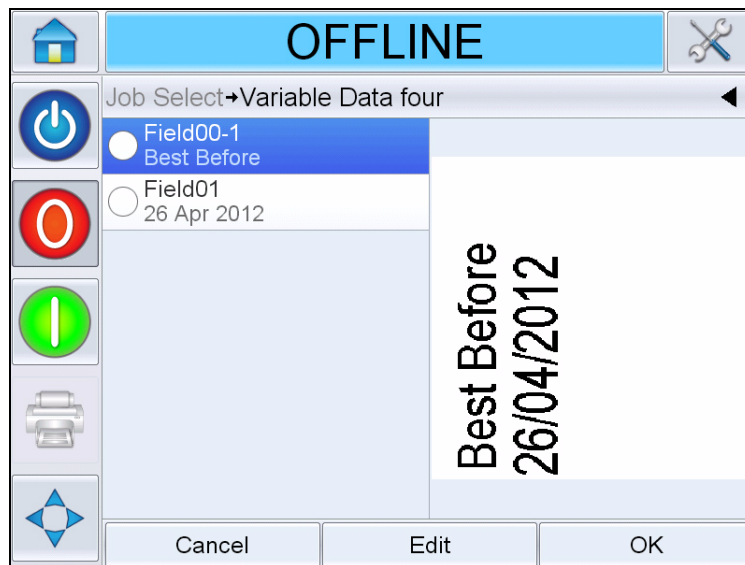

Figure 6-16: Default Data Window
- 2 Touch the required field from the list to select it (the first one in the list is automatically selected). The default data for that field appears in the preview window (Figure 6-16).